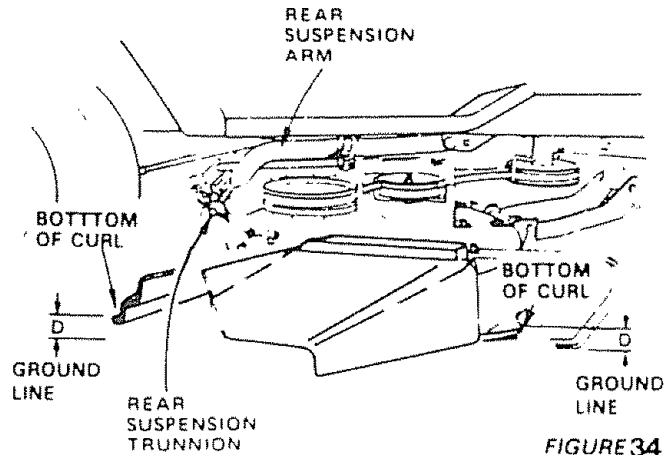

FIGURE 34
- a. To obtain the best cutting results, your mower housing should be adjusted so the front and rear flange distance "D" (Fig. 34) is 1/2" lower in front when the mower is positioned in the highest cutting position.